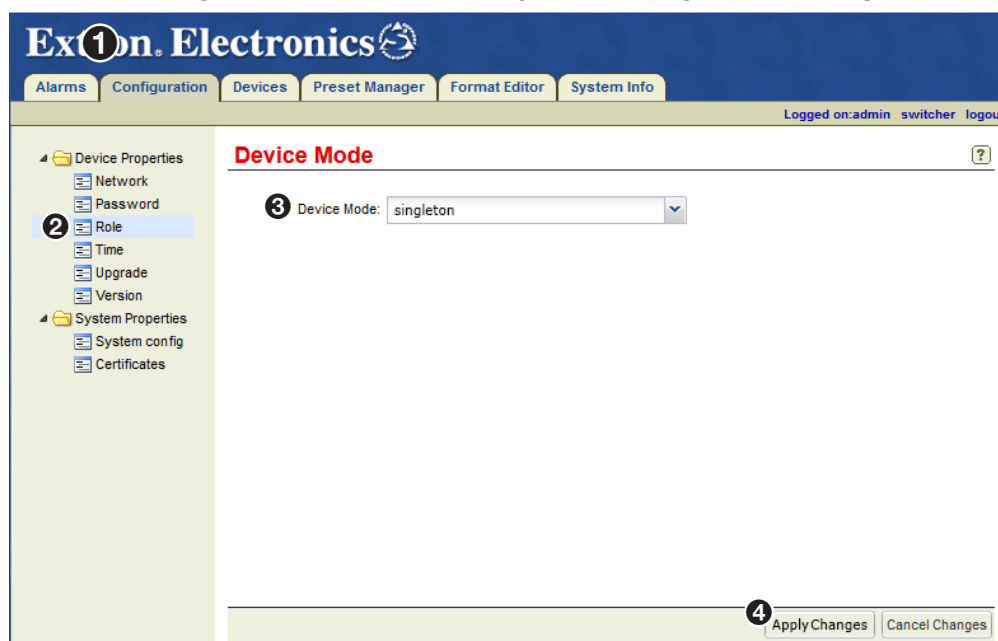

Figure 12. Configuration Page — Single VNM EC 200 Role Setting
1. Click the **Configuration** tab. The Configuration page opens (see figure 12, ①).